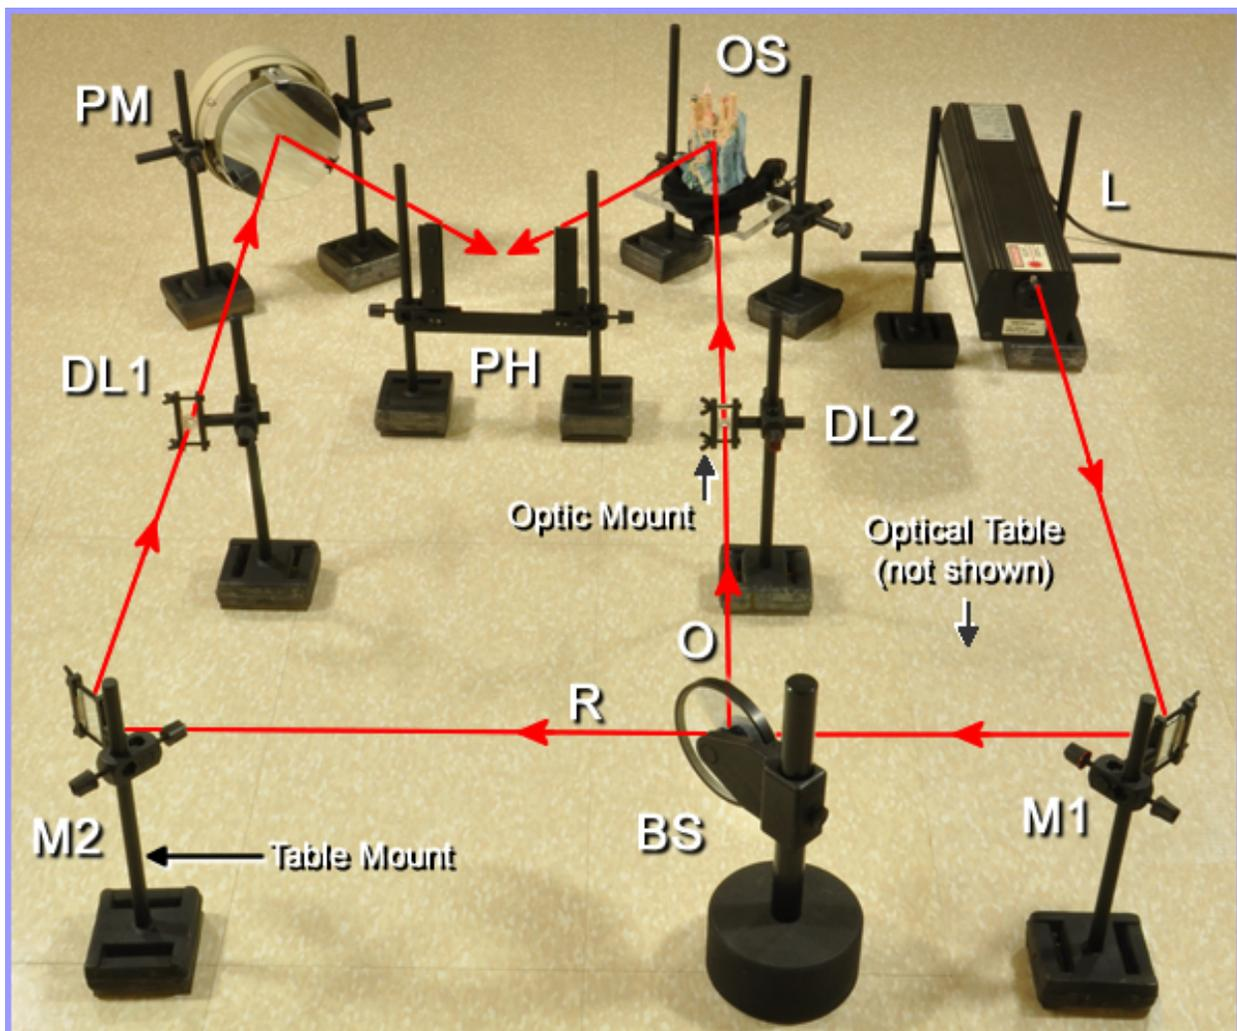
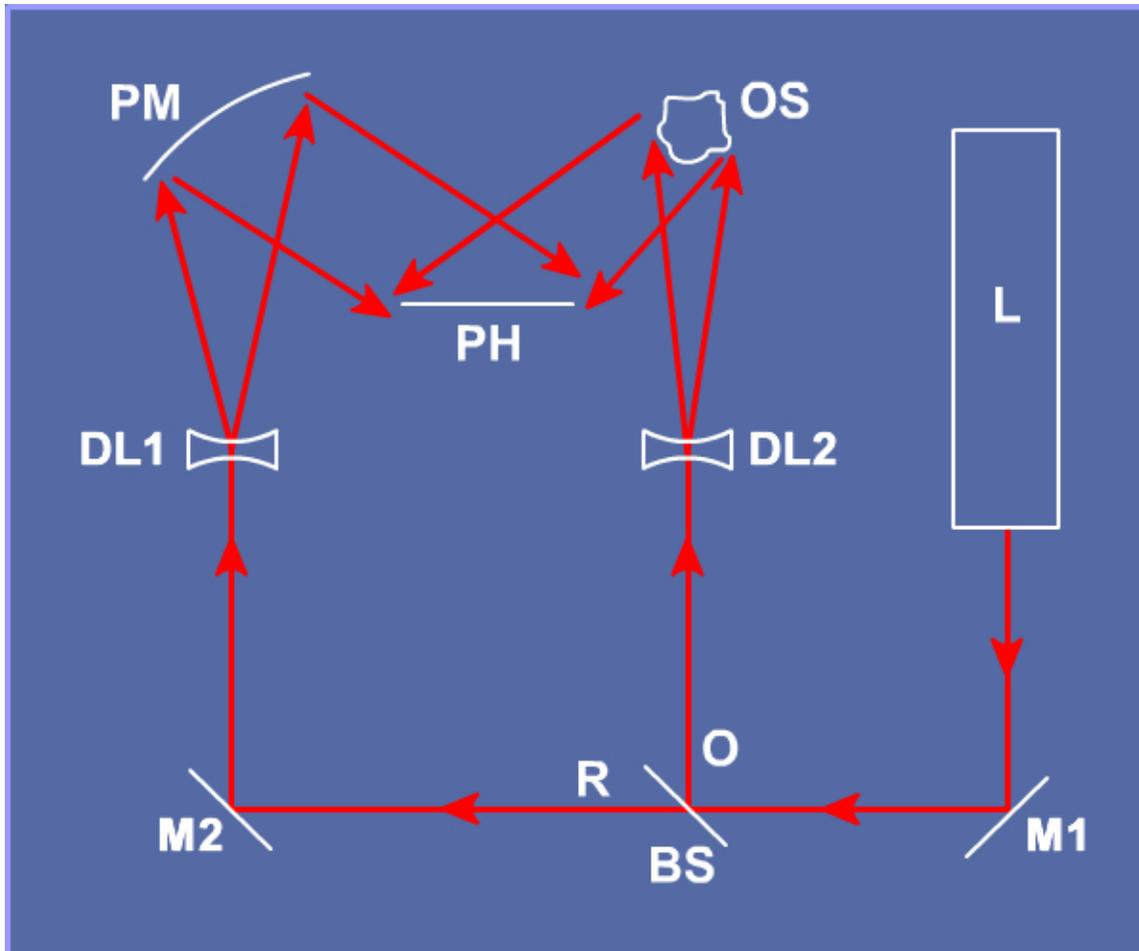
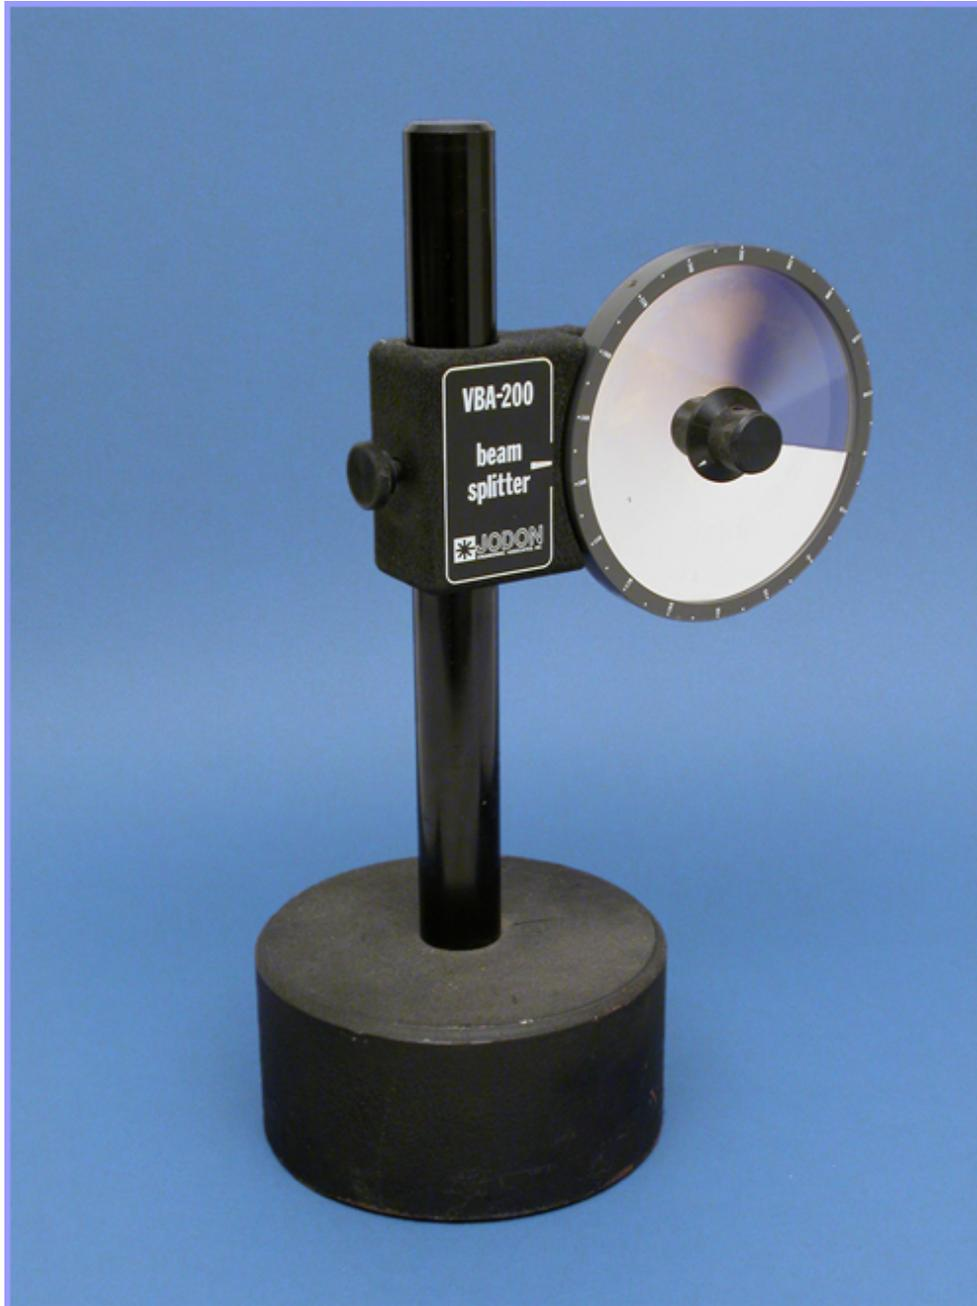

Figure 1a: Photograph of a basic multi-beam holography setup.
Figure 1b: illustration of a basic multi-beam holography setup (top view).
Figure 4e: Circular-gradient variable beamsplitter.
Before you start building this display holography system and producing holograms, you need to see a visual overview of what a basic system (also known as an optical arrangement, optical setup or just setup) looks like when it is completely set up and ready to record a hologram. Figure 1a shows a photographic view of the system and Figure 1b shows a top-view illustration of the same system. Figure 1a shows the setup on a floor instead of on my optical table for clarity. This is a "multi-beam" transmission hologram setup because the laser beam is split into two beams by the beamsplitter instead of using just one beam without a beamsplitter for "single-beam" setups. The optical setups I will be describing on this site work extremely well. There are other systems that can be built (such as a sandbox system or screw-down system), but I have found my gravity system to be much more versatile for creating excellent holograms up to 12 inches x 16 inches (30.48 cm x 40.64 cm) in size. That's the objective of all this: to produce high quality white light reflection display holograms that can be hung on your wall and display their images.
The setup shown in Figure 1a has five basic optical components. They are the laser (L), beamsplitter (BS), directional mirrors (M1 & M2), diverging lenses (DL1 & DL2), and the parabolic mirror (PM). In addition to the optical components, there are additional components which are the object scene (OS), the photographic plate/film holder (PH), the table mounts, the optic mounts, and the optical table. From this point forward, I will refer to the recording medium as a photographic plate or just plate and "film" will be inferred.
Referring to the diagram in Figure 1b, here is what happens during the recording process. The laser beam from the laser (L) travels to the first directional mirror (M1) and is reflected to the beamsplitter (BS). At the beamsplitter, the beam is split into two beams. These two beams are given names. One is the reference beam (R) and the other is the object beam (O). The reference beam (R) travels through the beamsplitter to a second directional mirror (M2) and is reflected to a diverging lens (DL1) that spreads the beam to a parabolic mirror (PM) that reflects the spread beam to the recording plate (PH).
The setup of the components shown in Figure 1a is a simplistic setup for illustrating the recording process. Your setup will be slightly different to facilitate creating high quality display holograms. In this section on Building a Display Holography System, I will cover:
The best type of beamsplitter, and the easiest to use, is called a circular-gradient variable beamsplitter shown in Figure 4e. A circular-gradient variable beamsplitter has a wheel with an aluminum reflectivity gradient on one side of the wheel to control the amount of laser light reflected and transmitted (the laser beam should impinge on the gradient side of the beamsplitter). As the wheel is rotated from 0 to 360 degrees, the intensity of the reflected beam is decreased while the intensity of the transmitted beam is increased. You can choose either the reflected beam or the transmitted beam as the reference (R) beam. The other beam will then become the object (O) beam. Referring again to Figures 1a and 1b, the transmitted beam (R) is the reference beam in that basic setup.